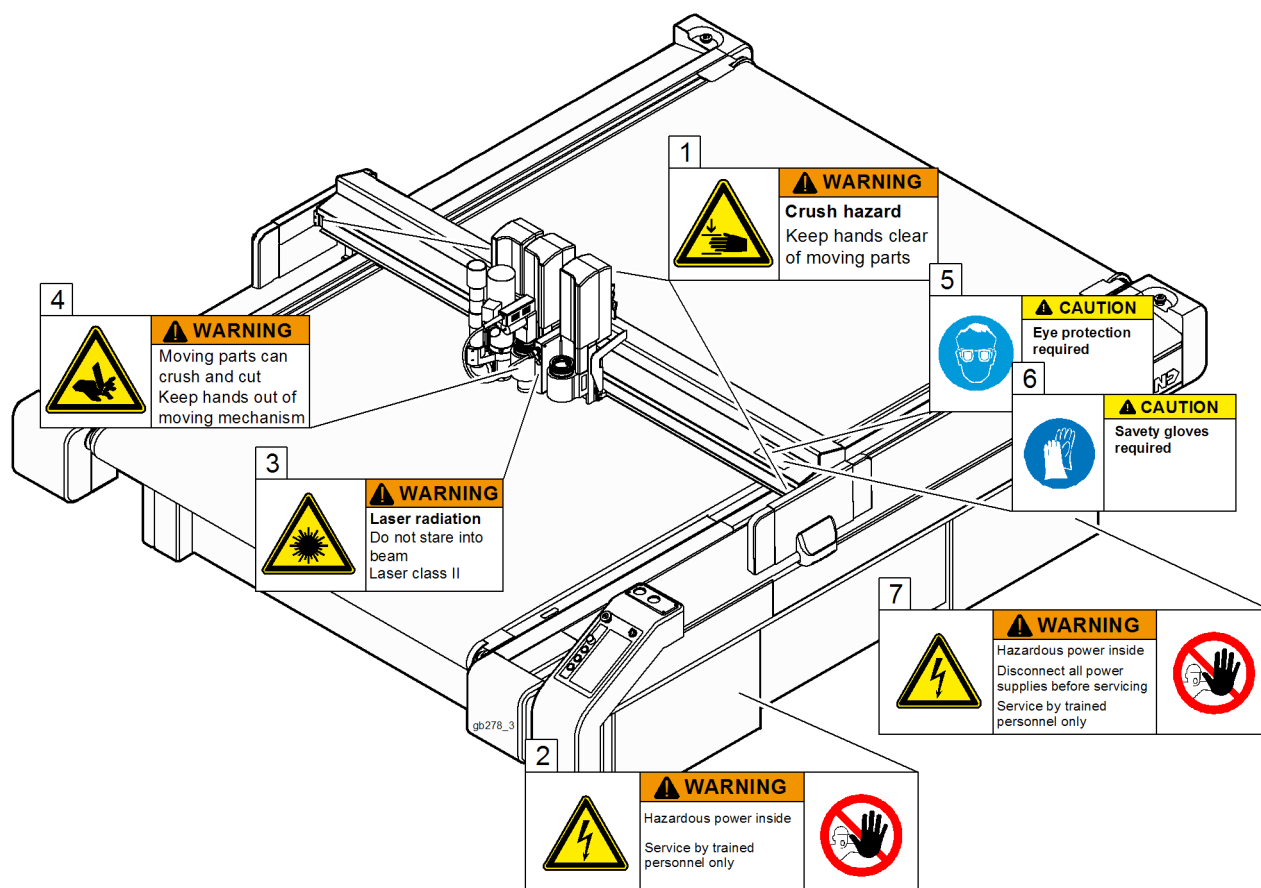

Fig. 3-5 Safety signs
- Replace missing or illegible safety signs as per Fig. 3-5